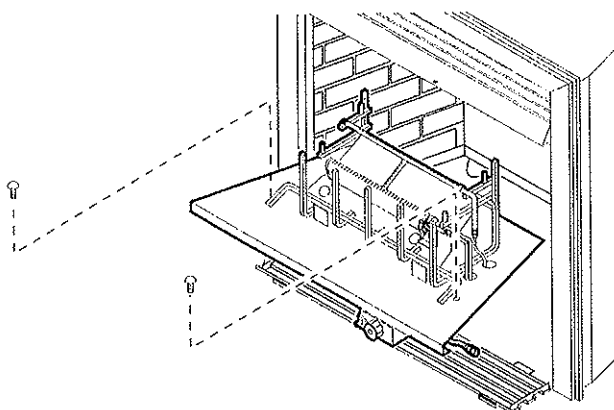

Figure 6
- To remove the grate and base assembly, take out two screws as shown in *Figure 6*.